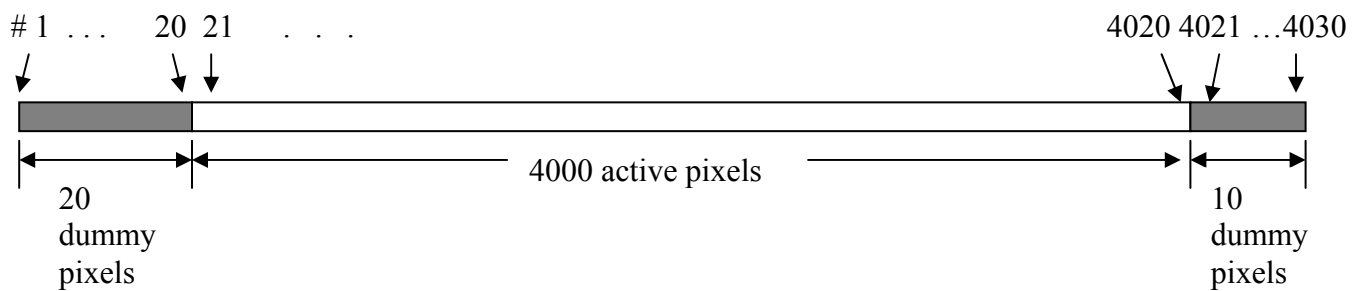

Figure 3. The pixel arrangement of the sensor array
In addition to the active pixel, optical black (OB) pixels are designed to provide a dark reference voltage and eliminate edge effect. The optical black pixels are arranged for 20 pixels on the beginning of 1st active pixel and 10 pixels after the 4000th active pixels. Therefore, the total number of the image sensor equals to 4030 pixels. The optical black pixels are the same as active image sensor except they are covered by a light shielding opaque element. Figure 3 shows the pixel arrangement of the sensor array.